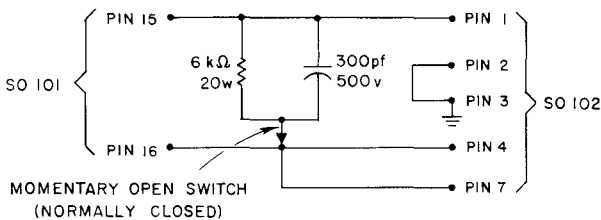

Figure 8. Schematic diagram of dummy load connections.
**5.6.3 CONNECTIONS REQUIRED.** The following connections (see Figure 8) should be made between output receptacles and to the dummy load for use as called for in subsequent paragraphs.